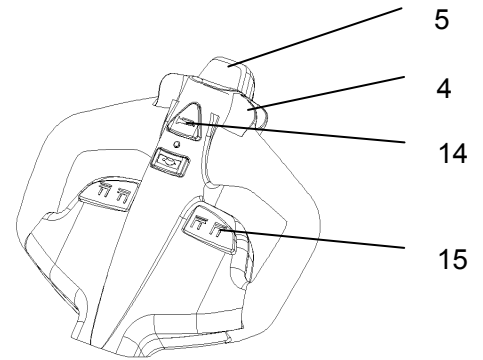

Fig.9: Tiller operating controls
After starting the truck by turning on the key switch (8), move the tiller to the operating zone ('F', fig.9). Turn the accelerator button to the desired direction forward 'Fw.' or backwards Bw.'(fig. 9).